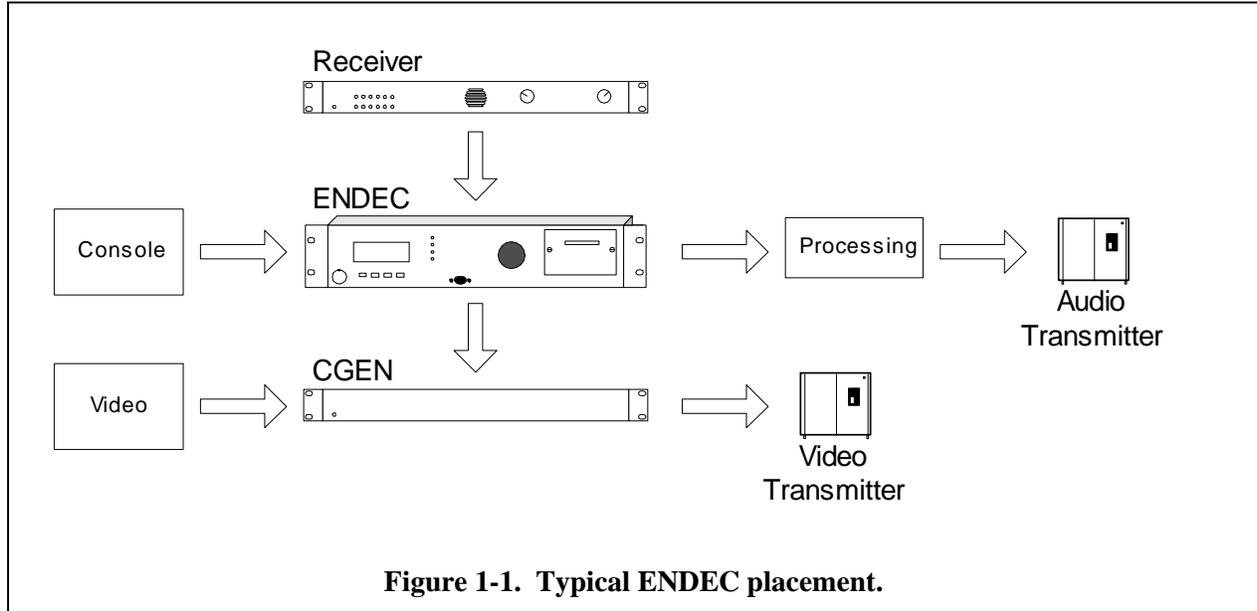

Figure 1-1. Typical ENDEC placement.
- 3) Put the ENDEC into the audio chain (after you have set the parameters and done some bench testing and familiarization). The point of EAS is that the alert can go on the air automatically, so the ENDEC will need to be able to switch out your program audio and switch in its alert audio. The easiest way to do this is to use the included Main Audio IN and Main Audio Out XLR connectors on the back of the ENDEC to place the ENDEC between the console and other station audio sources and the transmitter (or STL). The ENDEC is usually placed before any audio processing¹, see Figure 1-1. The ENDEC also has a digital audio AES/EBU in and out connector. When the digital audio IN and OUT ports are used, the ENDEC will automatically interrupt digital audio. If you use an external switch, you can use the digital audio OUT port to provide digital audio to the switcher. In either case, the ENDEC can provide its own clock, you it can derive clock from the digital audio IN port.